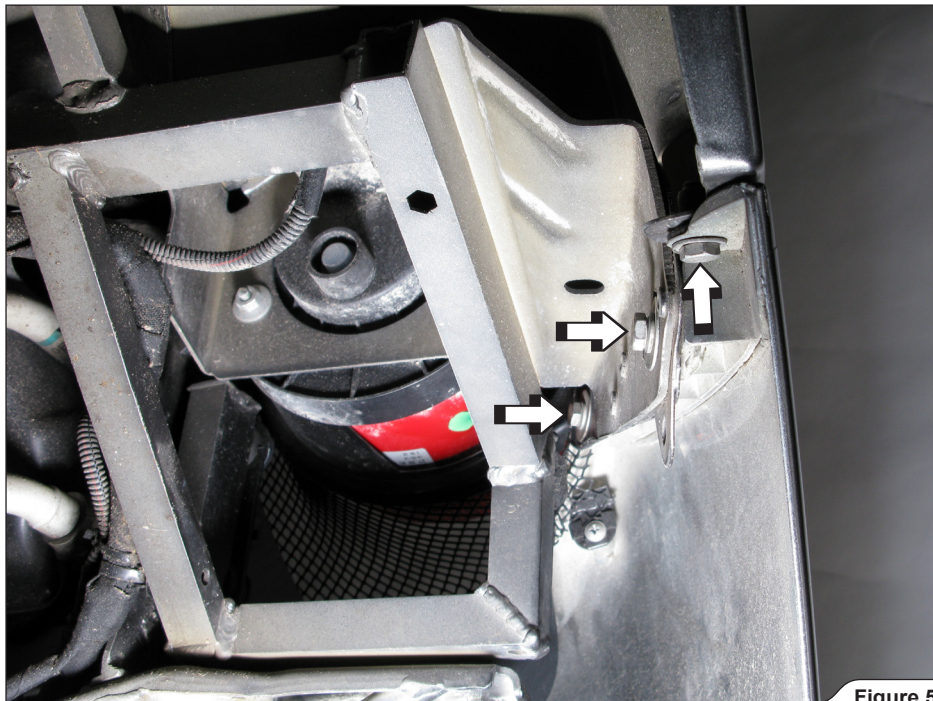

Figure 5
4. **For Slip-On and optional Link Pipes:** unscrew the marked rear bumper's bolts on both sides of the vehicle (**Figure 5**).